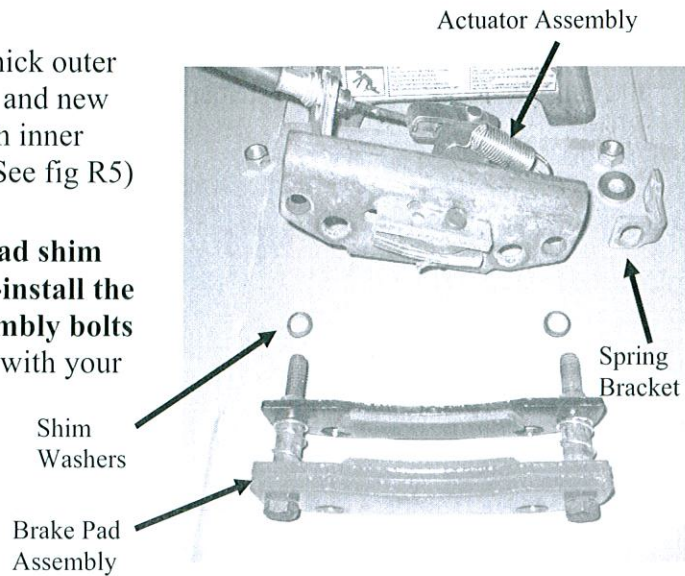

Fig R5 – New component assembly
5. Insert outer bolts through the new thick outer brake pad. Place spacers over bolts and new springs over spacers. Place new thin inner brake pad over bolts and spacers. (See fig R5)
- o **If you could not move the 0.030 inch gauge, disassemble the brake and add 1 shim washer to each assembly bolt (see fig R5).** Repeat steps 6&7
- **If you could move the 0.055 inch gauge across the full width, disassemble the brake and remove one shim washer from each assembly bolt (see fig R5).** Repeat steps 6, 7 & 8.